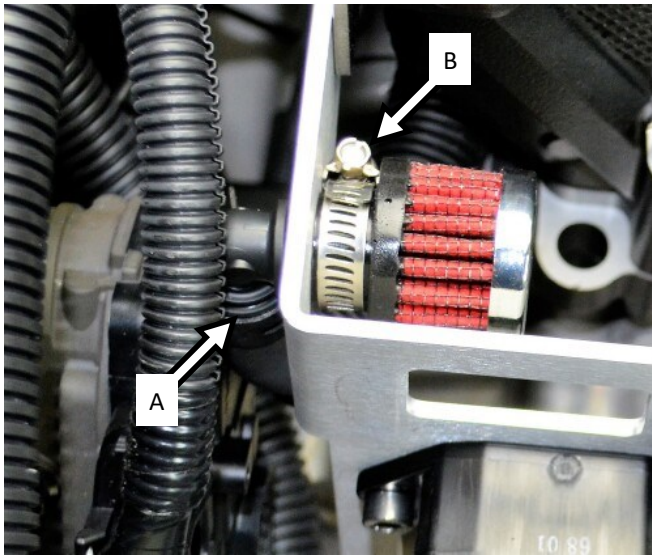

Figure 14
Insert one leg of supplied 1/2" elbow into end of OEM engine breather hose (A). **Note: Lubricate with window cleaner to ease installation.** Secure with OEM spring clamp. Insert remaining leg of elbow through hole in top, right side of electrical mount bracket. Install supplied breather filter onto elbow and secure (B). **Note: Do not overtighten clamp.** (Figure 14)